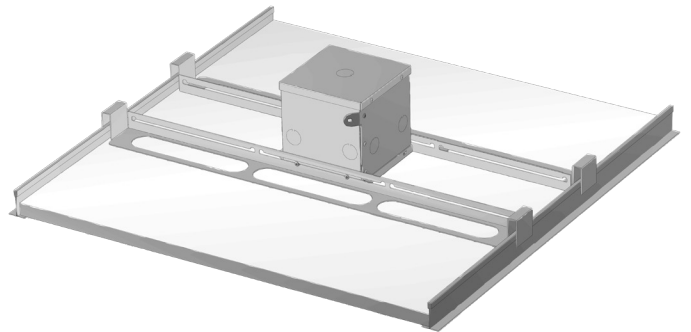

Figure 11.
7. Align the conduit box with the ceiling cutout. The screws that attach the rails to the box may be tightened as needed. See Figure 11.